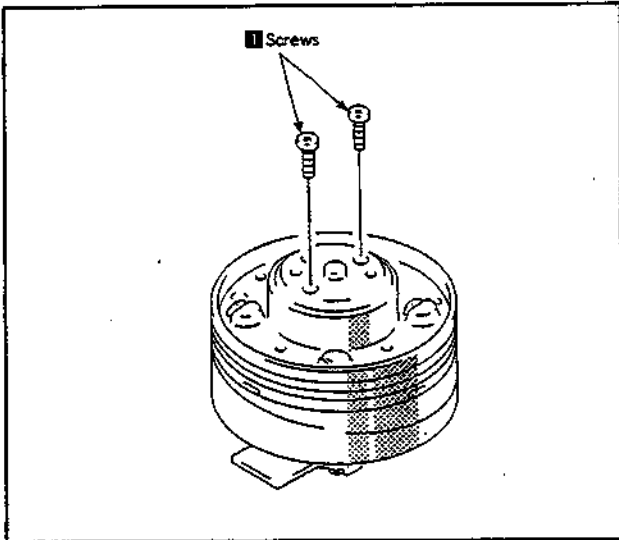

Fig. 29
- 1) Remove the two screws **1** (Fig. 29).
- 3) Remove the jig **6** and push down the rotary upper drum **5** gently by hand. If it does not go all the way down, secure it temporarily by tightening the two screws **8** alternately (Fig.29).